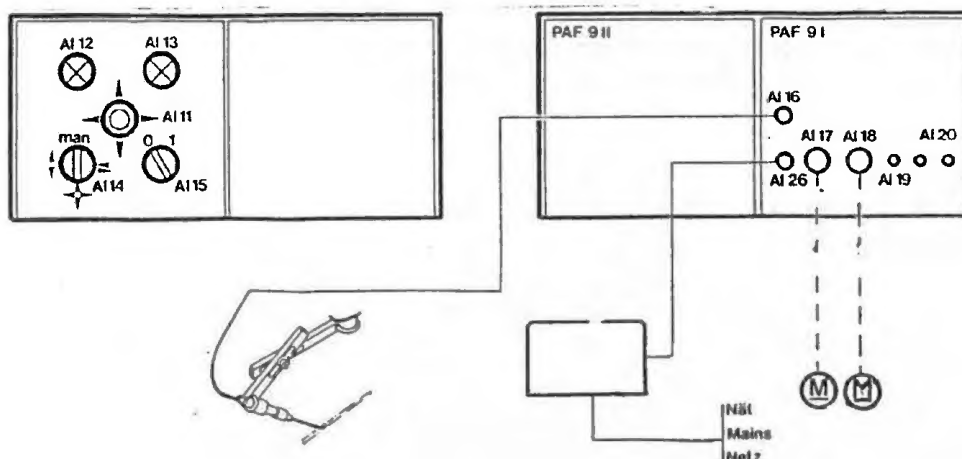

Fig. 2
per Fig.2
- 3 For controls, see PAF9, Fig. 2.